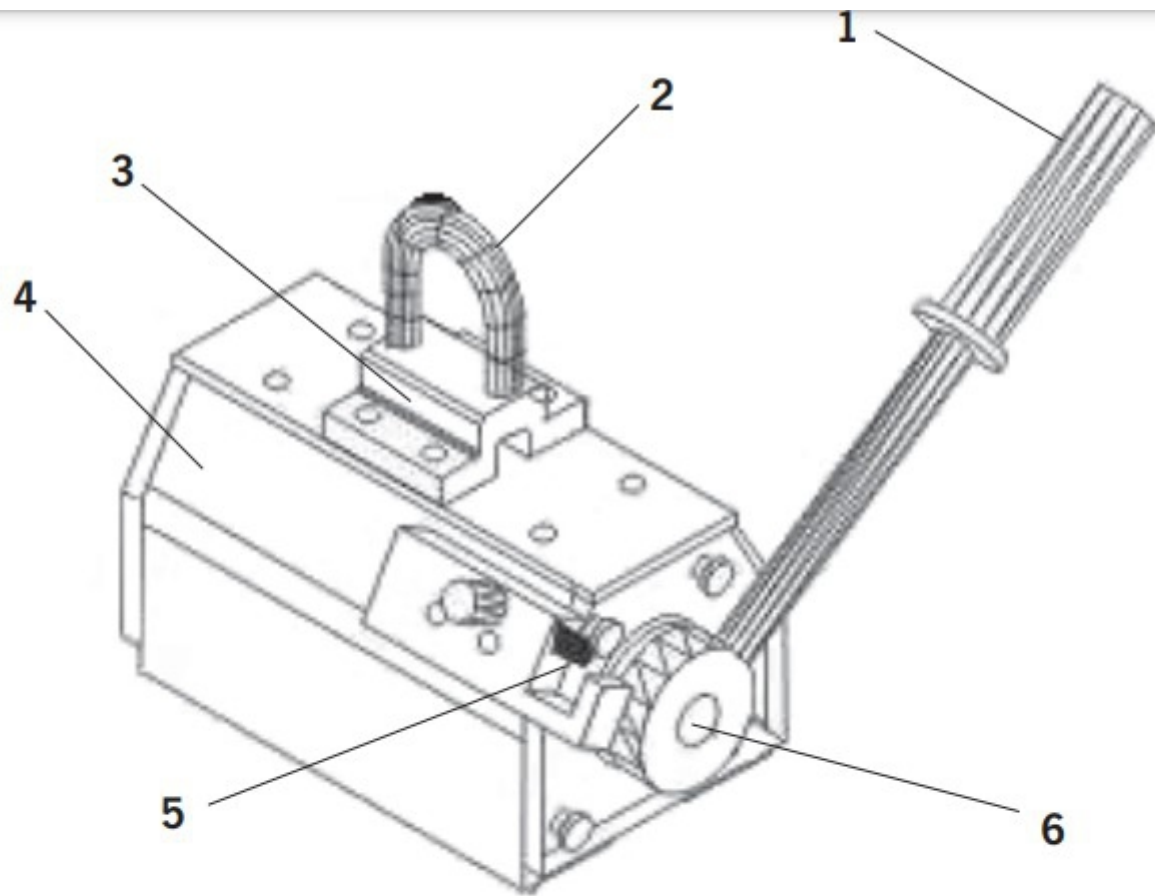

Fig. 5
- Make sure that the hook of the crane or hoist corresponds to shape and size of the suspension eye (Fig. 5) of the load hoisting tackle.
- Prior to operation, the hand lever (Fig. 5), which can be removed for transport purposes, has to be screwed to the load hoisting tackle.